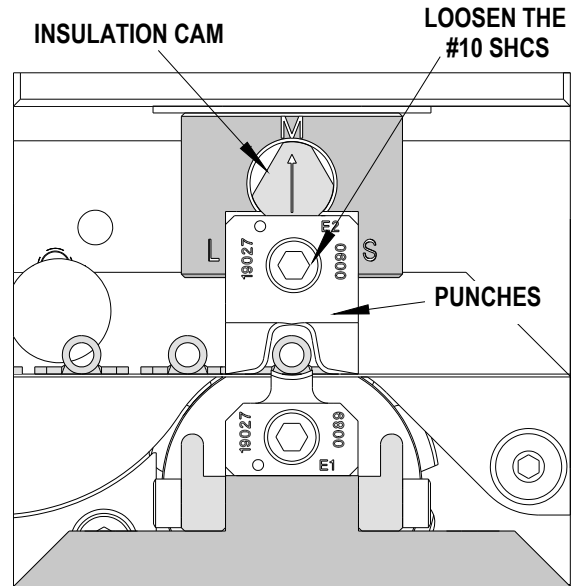

Figure 2-4
5. Rotate the insulation adjusting cam to achieve the desired insulation height. There are three cam positions (marked L, M, and S) for large, medium, and small diameter wires. The cam must be in one of the three positions; do not adjust it between positions. See Figure 2-4.